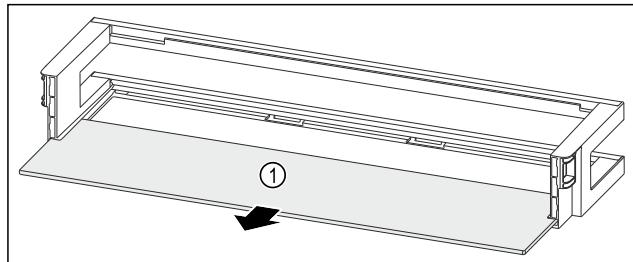

Fig. 120 Door rack with shelf
- ▶ Remove the shelf Fig. 120 (1).